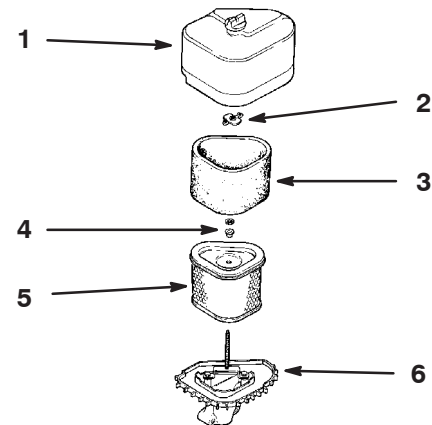

Figure 17
2. Clean around the air cleaner to prevent dirt from getting into the engine and causing damage. Unscrew the cover nut and remove the air cleaner cover (Fig. 17).
3. Remove the air cleaner assembly (Fig. 17).
4. Carefully slide the foam element off the paper element (Fig. 17).
1. Carefully slide the foam element onto the paper air cleaner element (Fig. 17).
2. Place the air cleaner assembly onto the air cleaner base (Fig. 17).
3. Install the air cleaner cover and secure with cover nuts (Fig. 17).